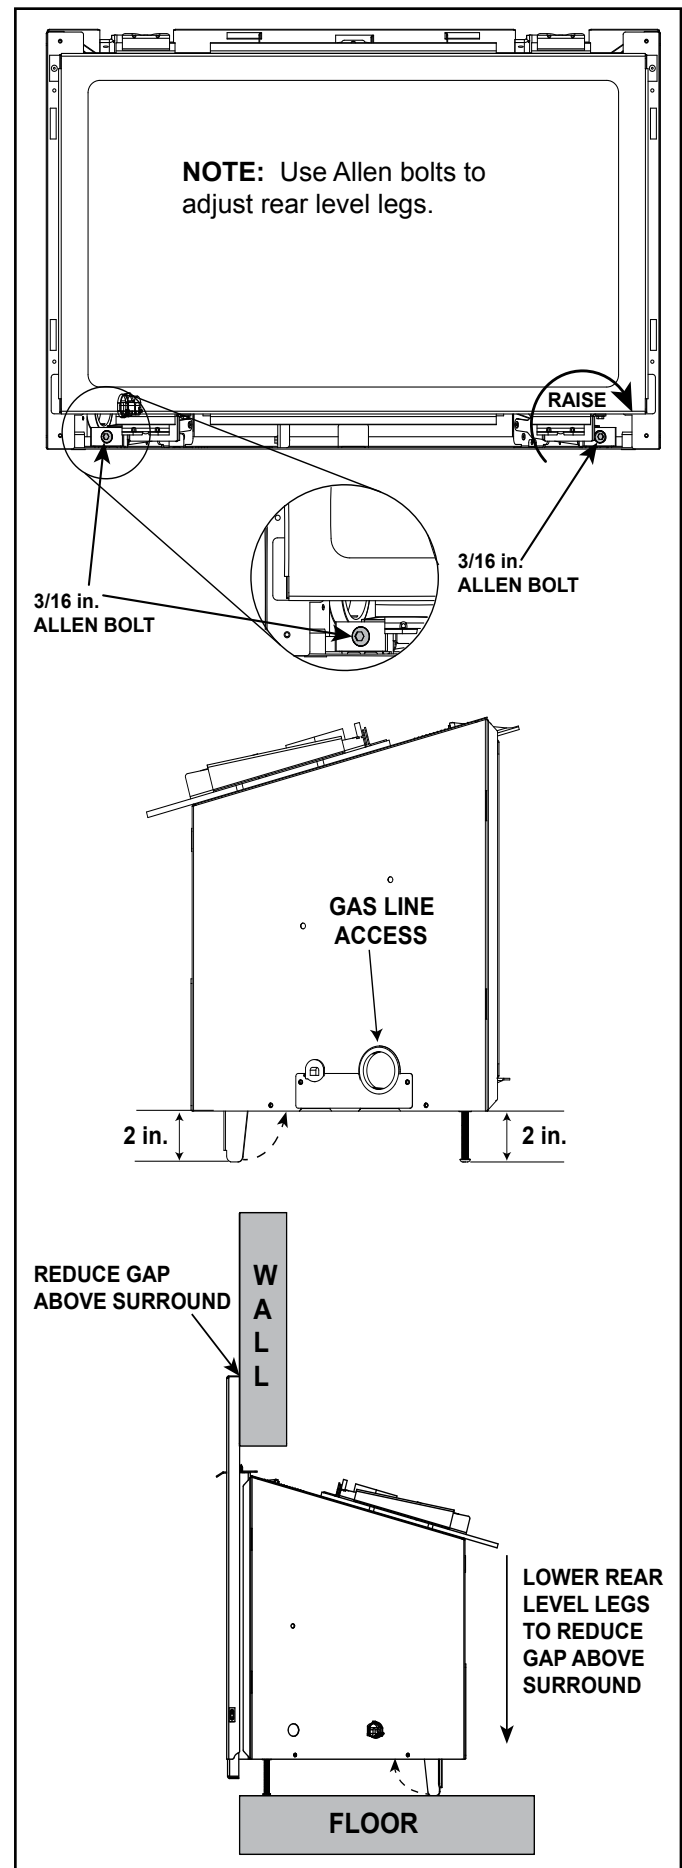

Figure 5.7 Leveling Leg Detail
- Install gas line into hole provided on side. See Figure 5.7.